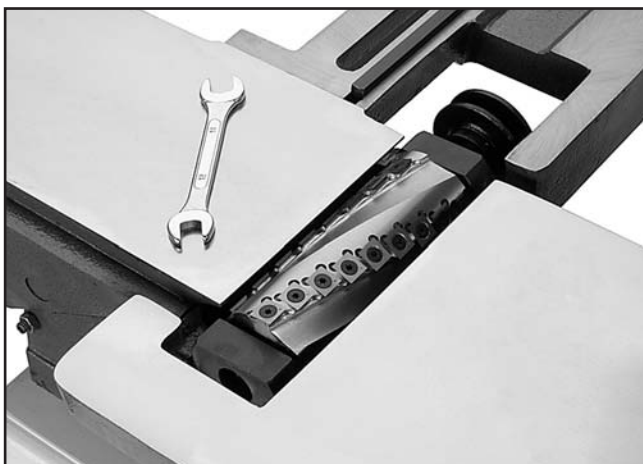

Figure 6. Example of spiral cutterhead installed.
13. Install the cutterhead (**Figure 6**) with the lock washers and hex nuts previously removed.